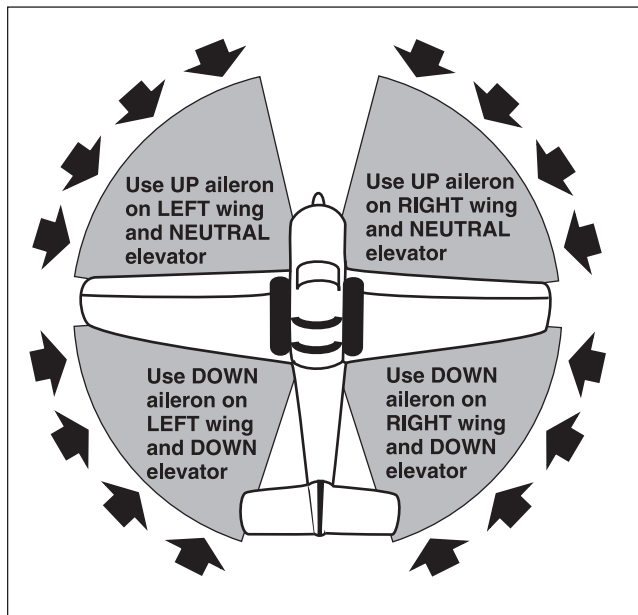

Figure 5-11. Control position while taxiing
3. The elevator should be held in the down position and the upwind aileron down when taxiing with a quartering tailwind (the most critical condition for a nosewheel-type airplane). See Figure 5-11.